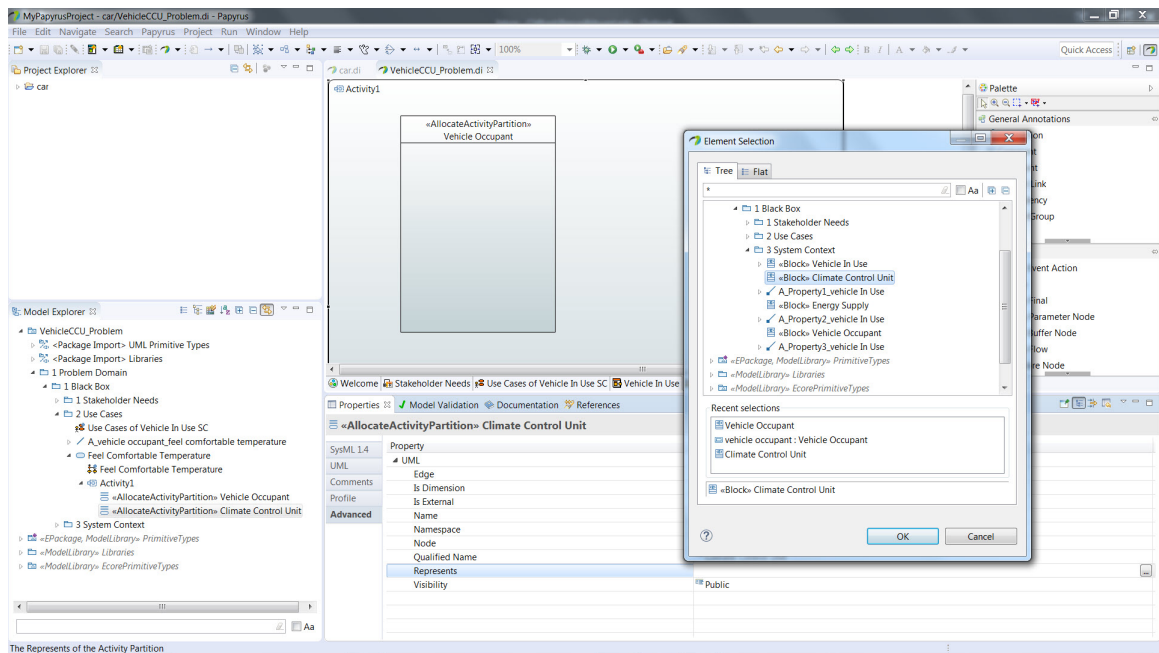
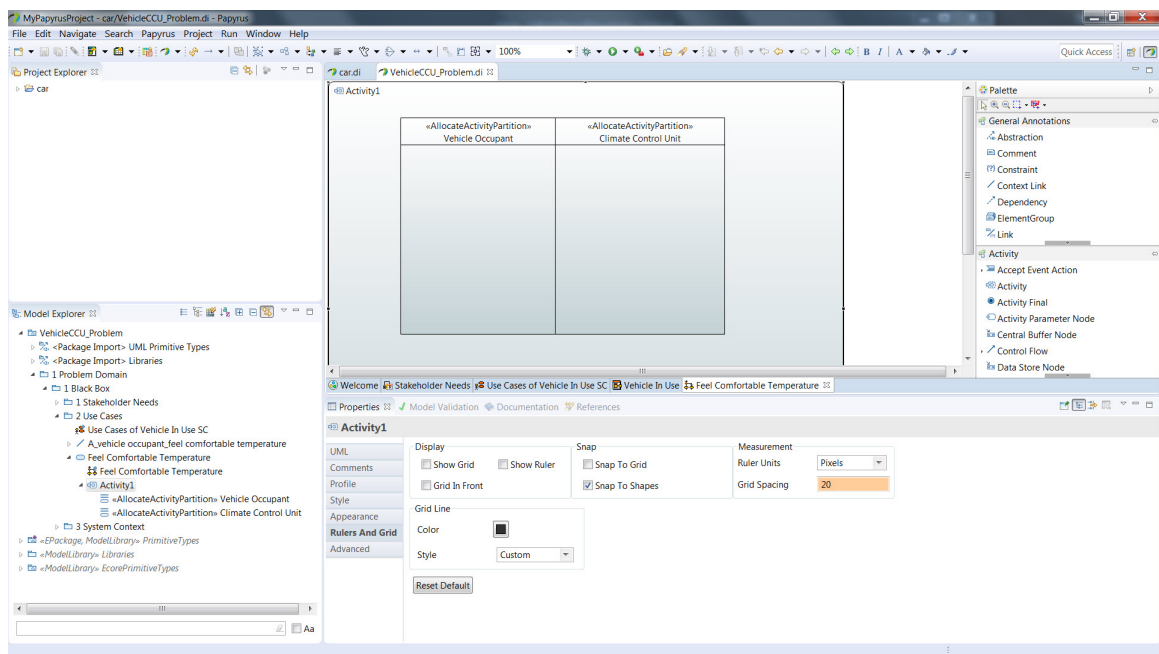

Figure 43: Create Climate Control Unit Activity Partition
Figure 44: Climate Control Activity Partition in Activity Diagram
- Repeat steps 10 through 12 to create another activity partition named *Climate Control Unit* and for its **Represents** property value select the *Climate Control Unit* block (figure 43). Drag this partition to your activity diagram and position next to the *Vehicle Occupant* activity partition (figure 44). To help position your shapes go to the **Rulers and Grid** tab in the **Properties** window at the bottom of the screen and un-check the **Snap to Grid** item and check the **Snap to Shapes** item.